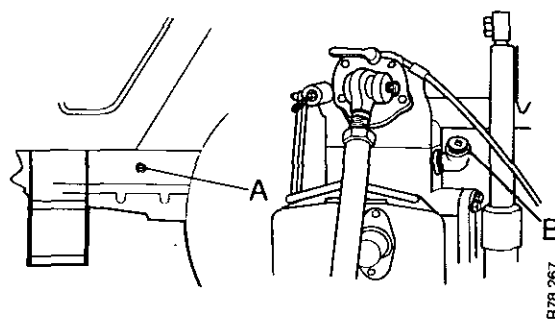

FIGURE 37. TRACTOR WITH CAB
1. On tractors which have a cab, a sight glass is installed in the left-hand side of the main frame. See Figure 37 item A.
The oil level must be at least half way up the glass. Add oil to this level if necessary through the filler plug on the side of the PTO casing. See Figure 37 item B.